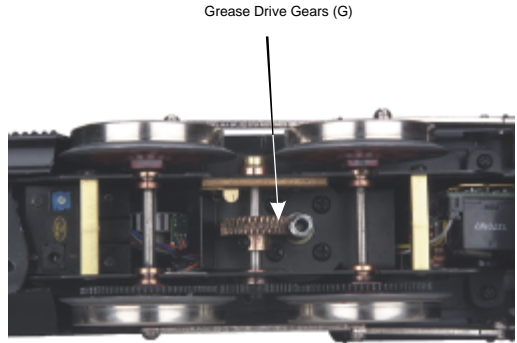

Figure 9 : Greasing the gears
2. As seen in Figure 9, once the drive train has been removed, access to the gearing is available. Lightly coat the motor worm gear and bronze drive gear (inside the drive train) with grease.